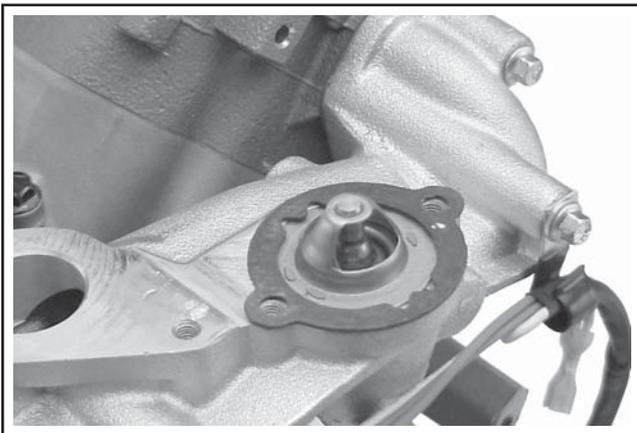

Figure 11-60. Installing Thermostat and Gasket.
7. Install the thermostat into the recess in the intake manifold, so the larger spring end is **down**. Place a new thermostat housing gasket onto the manifold surface, aligning the screw holes. Make sure that one of the notches in the gasket is aligned with the by-pass slot in the manifold and the thermostat housing. **Do not use a substitute gasket.** See Figure 11-60.